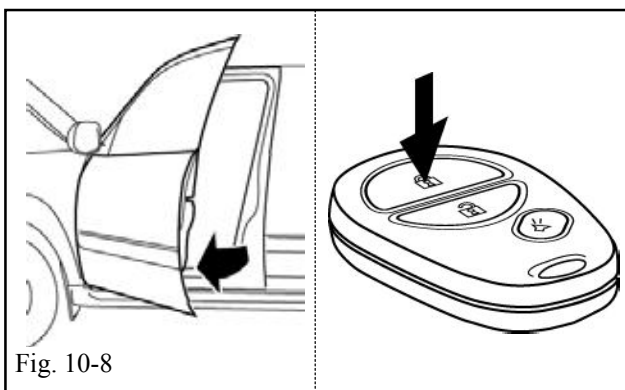

Fig. 10-8
- (m) Open the Driver's Door. (Fig. 10-8)
- (n) Using the Remote, press the Lock Button twice within 2 seconds. (Fig. 10-8)
- (o) Press and hold the lock button for 4 seconds. (Fig. 10-8)